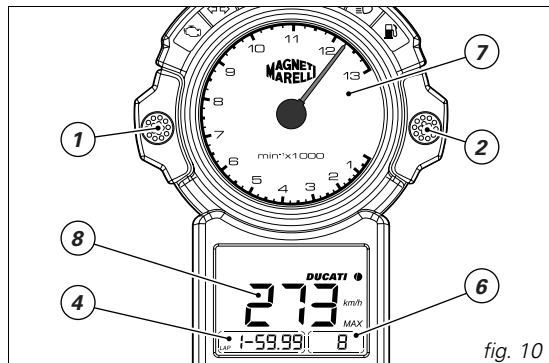
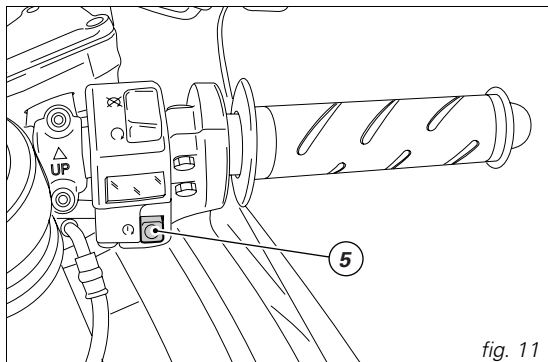

fig. 10
fig. 11
Lap time recording (fig. 10 and fig. 11)
Select TRIP indication in the display (4, fig. 10).
Press the engine start button (5, fig. 11) while riding to start the on-board chronometer. When button (5) is pressed again, the chronometer will stop and at the same time will start the on-board chronometer to read the 2nd time.
Saved lap time display function (fig. 10)
After measuring lap times, up to 19 times may be retrieved and displayed on the LCD. After switching the bike off, press button (2, fig. 10) and turn the key from OFF to ON in order to access the function.
From within this function, pressing the button (1, fig. 10) will scroll through recorded times. The instrument panel provides the following information:
- Lap number (6);
- Top engine rpm (7, fig. 10) during selected lap;
- Lap time (4, fig. 10);
- Top speed (8, fig. 10) during that lap.
To wipe off recorded lap times, hold down button (2, fig. 10) for over 5 seconds.
1) If the CPU recognised the code, the light (12, fig. 5) on the instrument panel will flash briefly. This means that the immobilizer system has recognised the key code and enabled engine ignition. When you press the START (5, fig. 11) button, the engine will start up.